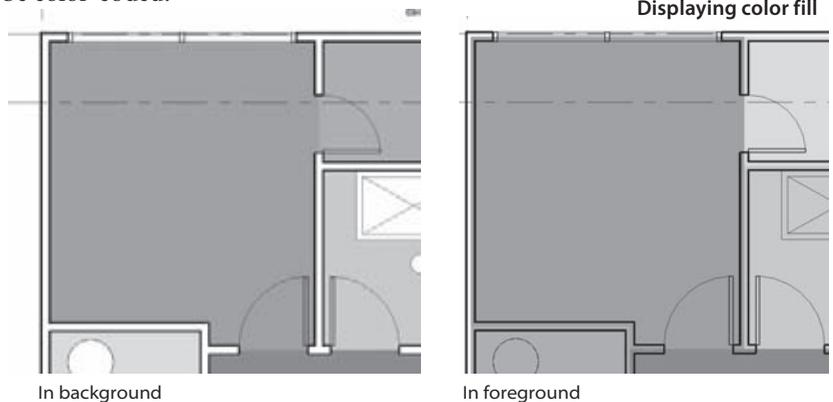

Figure 8.6
**Color Fill Placement** In the view properties, you have the option to display the color fill in the foreground or the background of the view. Displaying color in the background puts color beneath all model objects, whereas the Foreground option colors all model objects. Figure 8.6 illustrates this effect.